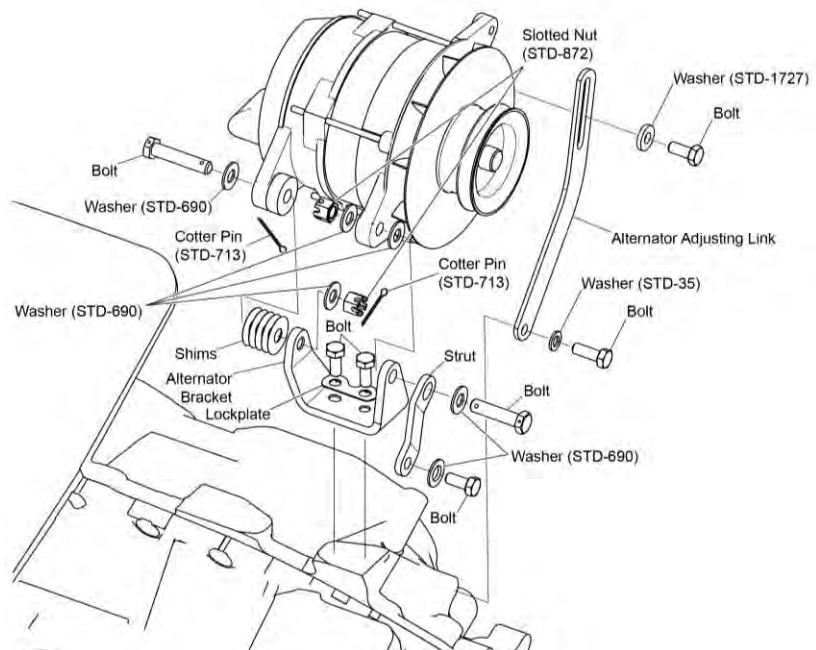
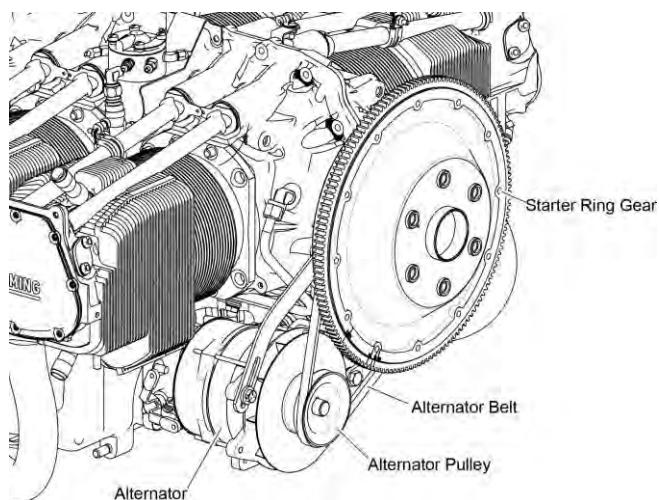

Figure 2
Figure 3
- (2) Remove the two bolts and two different washers (STD-1727 and STD-35) from the alternator adjusting link (Figure 2).
- (3) Remove the alternator adjusting link.
- (4) Remove the two cotter pins (STD-713), two bolts, two slotted nuts, shims and three washers from the alternator bracket, strut, and alternator (Figure 2). Discard the cotter pins and slotted nuts.
- (5) Remove the alternator and alternator belt.
- (1) Remove the two bolts and lockplate from the alternator bracket (Figure 2).
- (2) Remove the two bolts and washer (STD-690) from the strut and alternator bracket.
- (3) Remove the strut and alternator bracket.
- (1) Mount the alternator bracket on the engine.
- (2) Install the lockplate with two bolts and washers on the alternator bracket (Figure 2). Torque the bolts in accordance with the latest revision of the *Service Table of Limits - SSP-1776*.
- (3) Bend the tabs of the lockplate against the bolts.
- (4) Attach the strut to the alternator bracket with the two bolts and washers. Torque the bolts in accordance with the latest revision of the *Service Table of Limits - SSP-1776*.
- (1) Mount the alternator on the alternator bracket (Figure 2).
- (2) Install the bolt, two new slotted nuts, shims (as many as necessary) and three washers on the alternator bracket and alternator as shown in Figure 2. Install a new cotter pin in each new slotted nut.
- (3) Install the alternator adjusting link with the two bolts and different washers (STD-1727 and STD-35) where shown in Figure 2.
- (4) Examine the alternator belt per Chapter 72-70 in the *IO-360-N1A Engine Service Manual*.
- (5) Install the alternator belt on the alternator per the “Alternator Belt Installation” procedure in this chapter.
- (2) Loosen the bolt that attaches the alternator adjusting link to the alternator (Figure 2).
- (3) Loosen the bolt that attaches the alternator adjusting link to the crankcase (Figure 2).
- (4) Rotate the alternator on the bracket towards the starter ring gear.
- (5) Remove the alternator belt from the alternator pulley and the starter ring gear (Figure 3).
- (1) Install the alternator belt in the alternator belt groove on the starter ring gear support.
- (2) Install the alternator belt in the groove on the alternator pulley (Figure 3).
- (3) Adjust the alternator belt tension. Refer to the “Alternator Belt Tension Check/Adjustment” procedure in Chapter 72-70 of the **IO-360-N1A Engine Service Manual**.
- (4) Torque the bolts that attach the alternator adjusting link to the alternator and to the crankcase to (Figure 2) to 17 ft.-lb. (23 Nm).